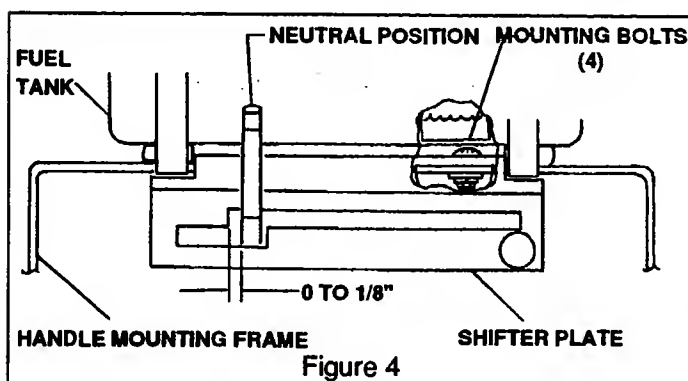

Figure 4
7. The shift plate should be adjusted so that the shift lever assembly is 0 to 1/8" away from the stop when the transmission is in neutral (see fig. 4). Tighten nuts securely.
3. The shift lever is not adjustable, however the shift plate can be moved right to left allowing proper positioning for neutral (See fig. 4).